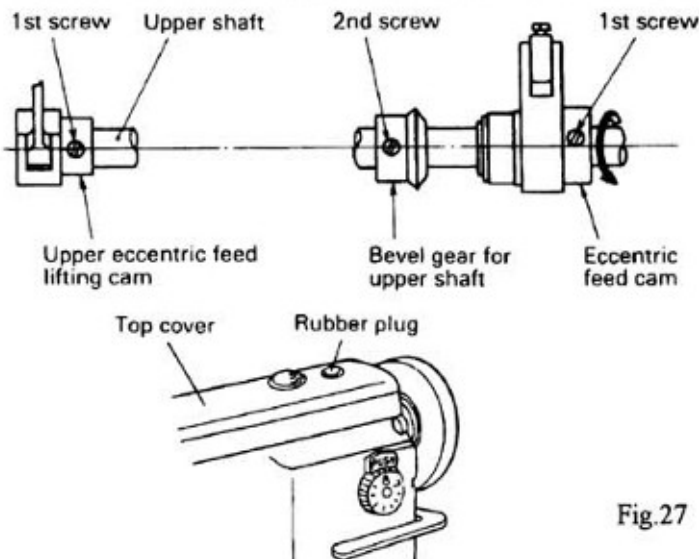

Fig.27
23. Adjustment of feed timing (Fig.27):
- 1) The standard position of the eccentric feed cam and eccentric feed lifting cam are illustrated to Fig.27